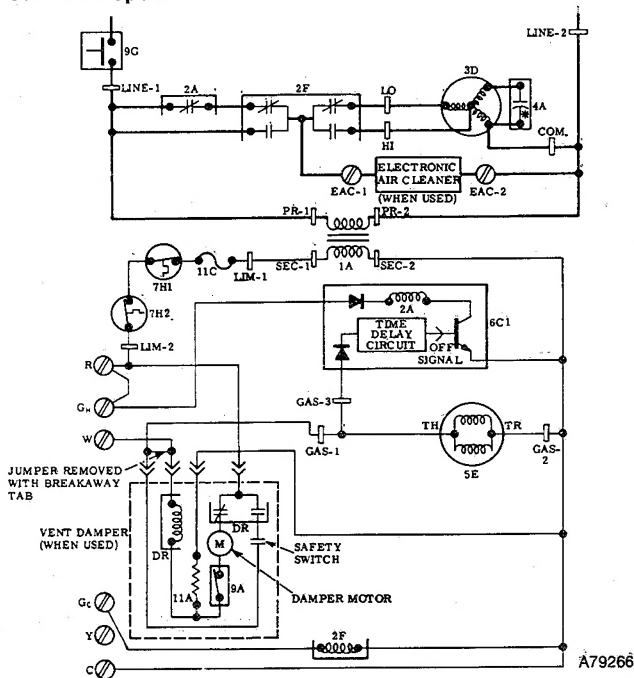
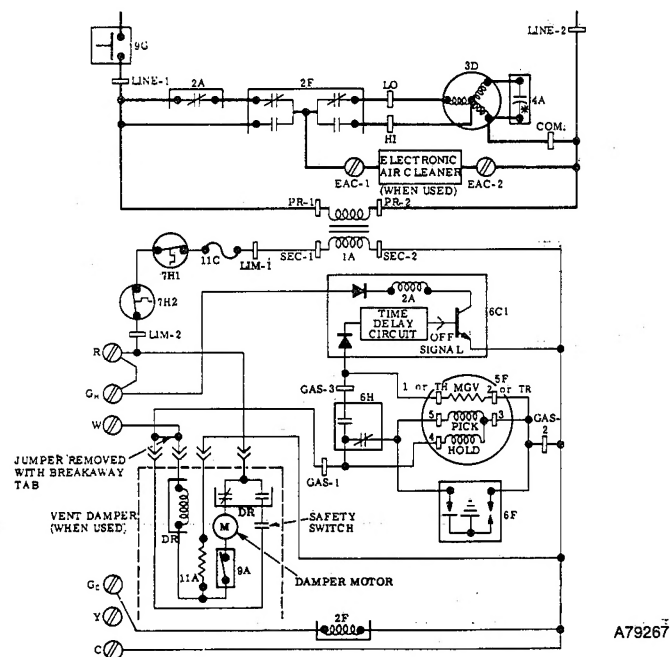

Figure 9—Line-to-Line Wiring Diagram for Sizes 050 thru 150 (match-lit pilot) Natural Gas & LPG
Figure 10—Line-to-Line Wiring Diagram for Sizes 050 thru 150 IID Natural Gas
**NOTE:** The wiring diagram shown in Figure 9 covers heating-only and Figures 10 and 11 cover heating/cooling.